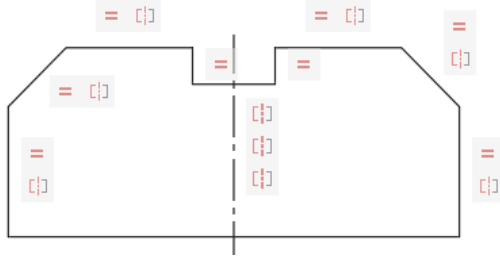

Figure 1-12 Sketch with symmetric constraints
13. Similarly, apply the symmetric constraints between the two inclined lines and then between the two small horizontal lines. The three symmetric constraints are applied as shown in Figure 1-12.